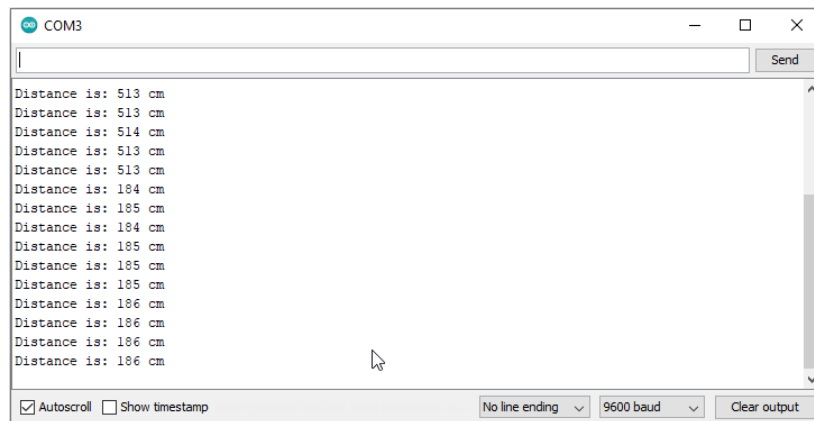

Figure 10.3: Distance on Serial Monitor
36. Then, upload the code and open serial monitor. You should see the following output as shown in Figure 10.3: